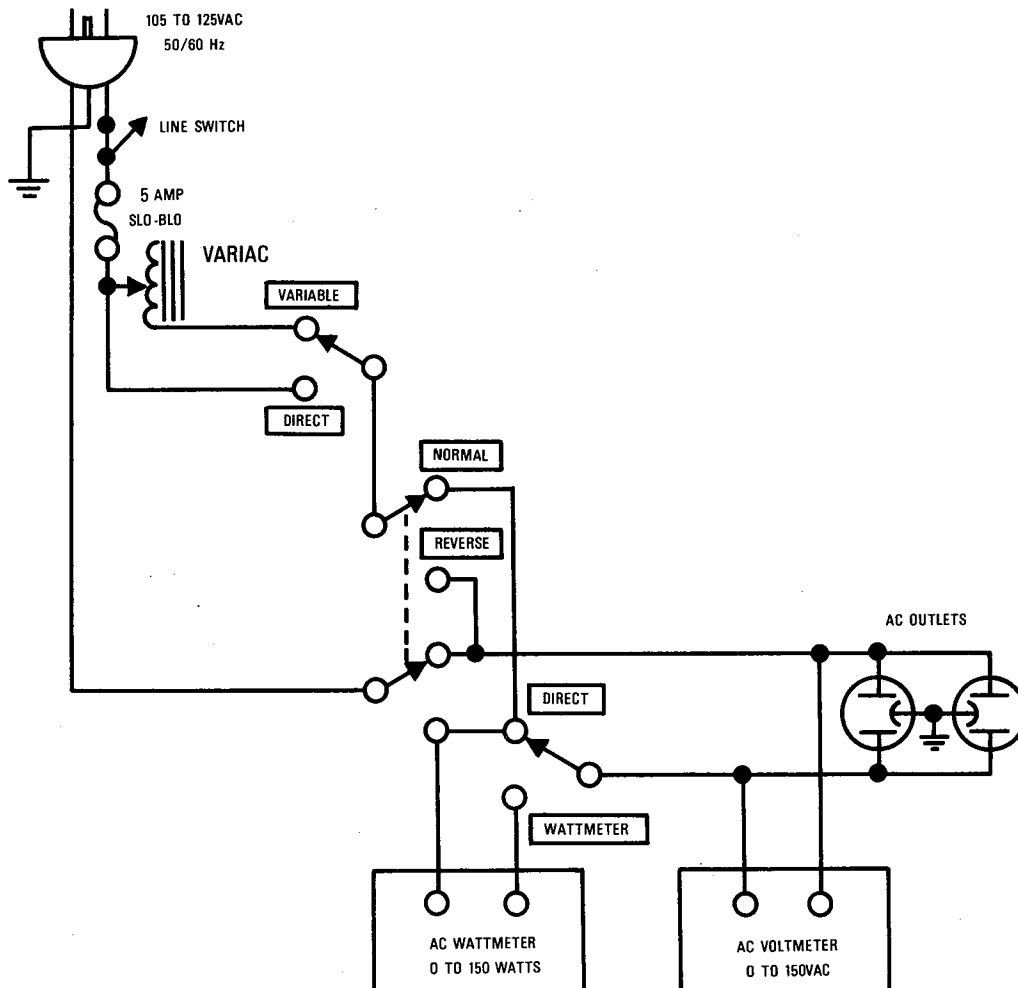

Figure 1. AC Power Control Box Simplified Schematic
1. Make the test setup shown in Figure 1 with the instrument controls set in the following positions: